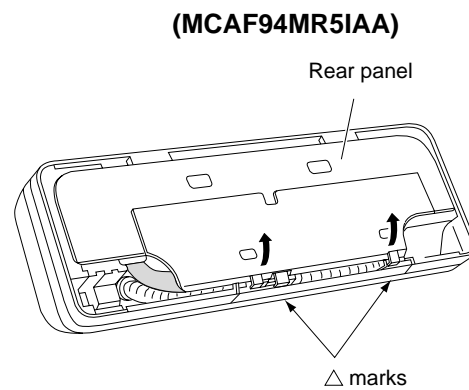

Fig. 6a
- (2) Press the 2 \triangle marks on the frame cover and disengage the stationary tabs from the frame. (Fig. 6a)
- (3) Remove the rear panel.
Tubing can be extended in 5 directions as shown in Fig. 6a. Select the direction you need providing the shortest run to the outside unit.